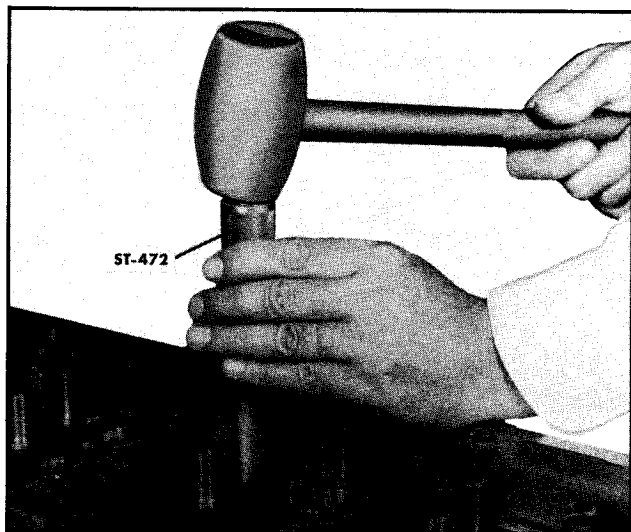

Fig. 3-10. Installing valve guide
2. Install new valve guides with valve guide driver ST-472, for JN, JNS and JT or ST-475 for J, JF, JS engines. If ST-472 and ST-475 are not available, proper height above head surface is 1.240 to 1.260 inches for JN, JNS and JT; 1.405 to 1.435 inches for J, JF, JS engines. See Fig. 3-10.